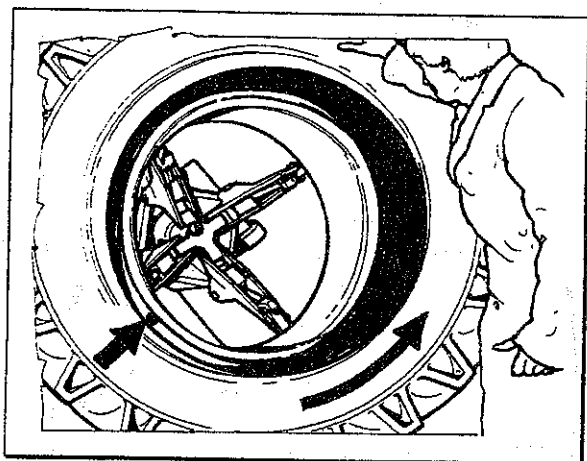

Fig.50
10. Place the hook tool as in Fig.50.